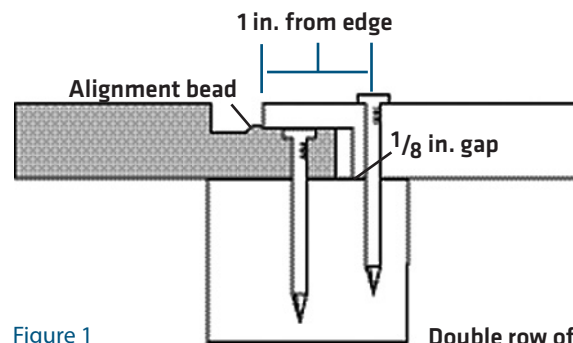
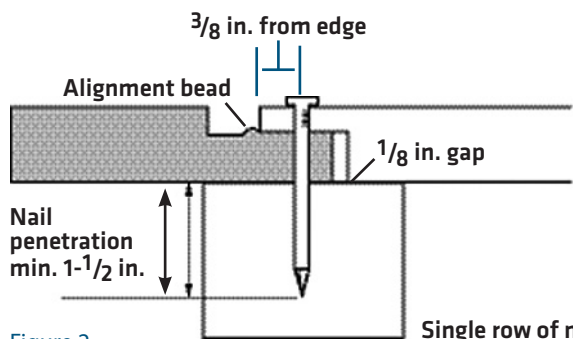

Figure 1
Figure 2
- **DO NOT INSTALL OVER ALIGNMENT BEAD.** Install panels in light contact to the edge of alignment bead. (see Figure 1 and Figure 2)